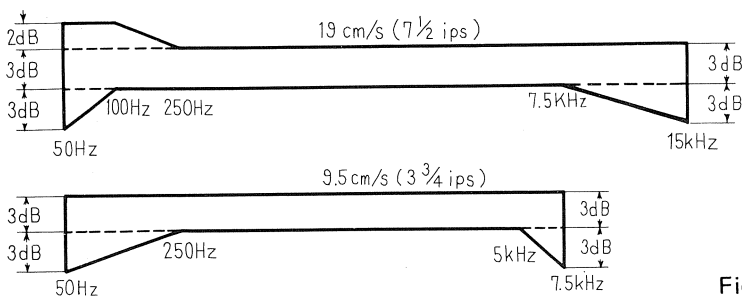

Fig. 31
5. Take meter readings on VTVMs. They should be within the specified response range shown in Fig.31.
7. If only the high end of the frequency shows insufficient response, this can usually be corrected by slightly reducing the abis current (see item 9-2, above).